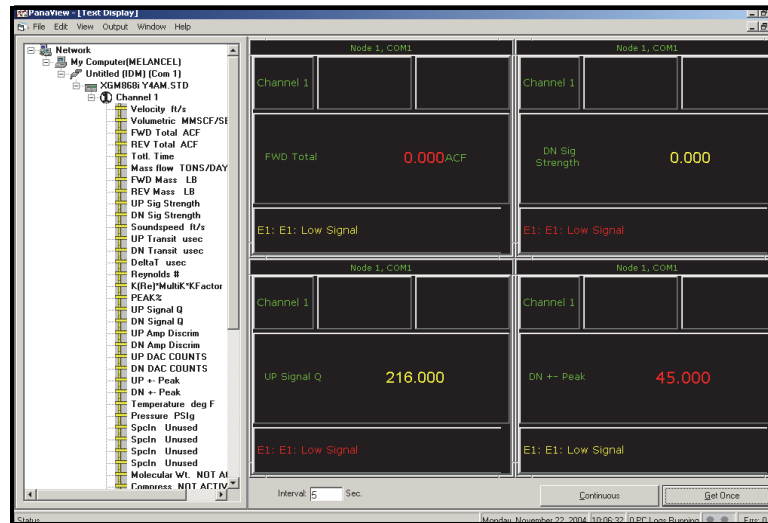

Figure 17 Multiple Text Screens in the *Text Display* Window
2. Repeat Step 1 for any desired additional process parameters, by double clicking on them in the PanaView network tree. PanaView automatically tiles the multiple text screens in the right pane of the *Text Display* window, as shown in Figure 17.